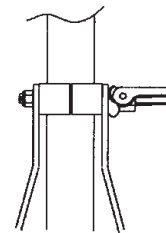

FIGURE 2
- D) INSTALL HANDLE RELEASE LEVER (6) AND CURVED WASHER CAM (7) AS SHOWN THRU HANDLE BRACE (8), COLLAR (9) AND HANDLE BRACE (10).
- E) INSTALL LOCK NUT (11) AND TIGHTEN UNTIL BOLT END IS 1/8" PAST THE NUT. SEE FIGURE 2.